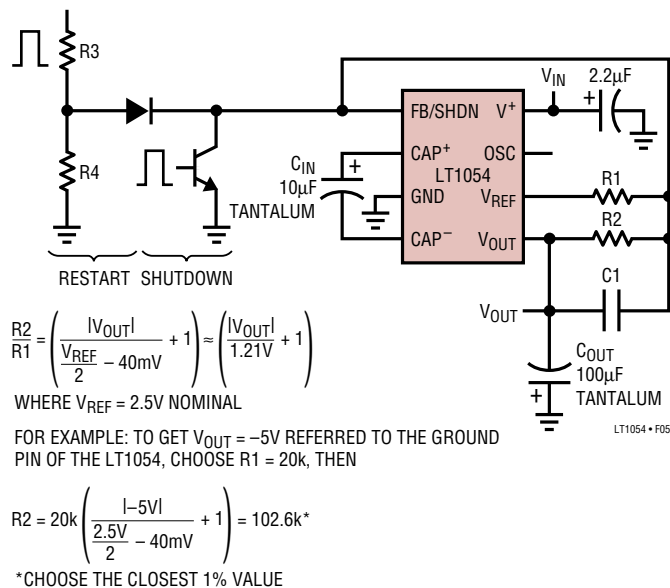

Figure 5
**FB/SHDN (Pin 1):** Feedback/Shutdown Pin. This pin has two functions. Pulling Pin 1 below the shutdown threshold ( $\approx 0.45V$ ) puts the device into shutdown. In shutdown the reference/regulator is turned off and switching stops. The switches are set such that both  $C_{IN}$  and  $C_{OUT}$  are discharged through the output load. Quiescent current in shutdown drops to approximately  $100\mu A$  (see Typical Performance Characteristics). Any open-collector gate can be used to put the LT1054 into shutdown. For normal (unregulated) operation the device will start back up when the external gate is shut off. In LT1054 circuits that use the regulation feature, the external resistor divider can provide enough pull-down to keep the device in shutdown until the output capacitor ( $C_{OUT}$ ) has fully discharged. For most applications where the LT1054 would be run intermittently, this does not present a problem because the discharge time of the output capacitor will be short compared to the off-time of the device. In applications where the device has to start up before the output capacitor ( $C_{OUT}$ ) has fully discharged, a restart pulse must be applied to Pin 1 of the LT1054. Using the circuit of Figure 5, the restart signal can be either a pulse ( $t_p > 100\mu s$ ) or a logic high. Diode coupling the restart signal into Pin 1 will allow the output voltage to come up and regulate without overshoot. The resistor divider  $R3/R4$  in Figure 5 should be chosen to provide a signal level at pin 1 of  $0.7V$  to  $1.1V$ .
The error amplifier of the LT1054 servos the drive to the PNP switch to control the voltage across the input capacitor ( $C_{IN}$ ) which in turn will determine the output voltage. Using the reference and error amplifier of the LT1054, an external resistive divider is all that is needed to set the regulated output voltage. Figure 5 shows the basic regulator configuration and the formula for calculating the appropriate resistor values.  $R_1$  should be chosen to be
REFER TO FIGURE 5
$$\frac{R2}{R1} = \left( \frac{|V_{OUT}|}{\frac{V_{REF}}{2} - 40mV} + 1 \right) = \left( \frac{|V_{OUT}|}{1.21V} + 1 \right), \text{ REFER TO FIGURE 5}$$